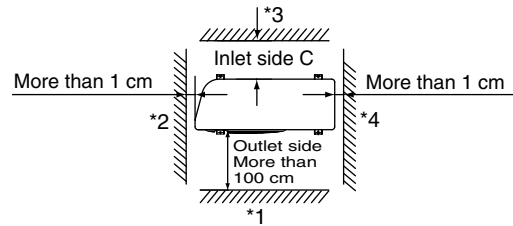
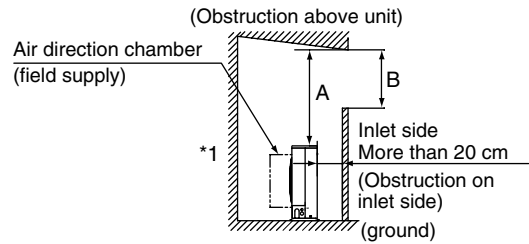

Fig. 2-5
Fig. 2-6
- allow enough room around the unit for air intake/exhaust and possible maintenance. (Fig. 2-5)
- Concerning inlet-side distance "C" (Fig. 2-5)
- If wall *1 is on the outlet side (Fig. 2-5), or if obstructions are present on all 3 sides *2, *3, and *4 (Fig. 2-5), then the minimum distance for "A" and "B" is 2 m (Fig. 2-6). Even if there is no wall on the outlet side, a minimum of 100 cm is required.